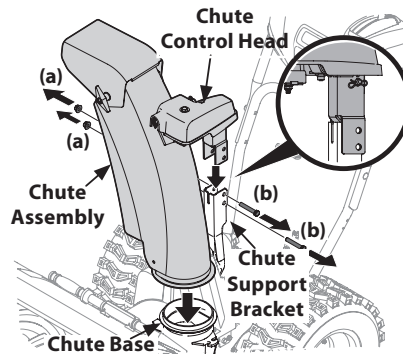

Figure 2-36
- Remove lock nuts (a) and hex screws (b) from chute support bracket (this will require two wrenches). See Figure 2-36.
- Place chute assembly onto chute base and chute control head onto chute support bracket. See Figure 2-36.